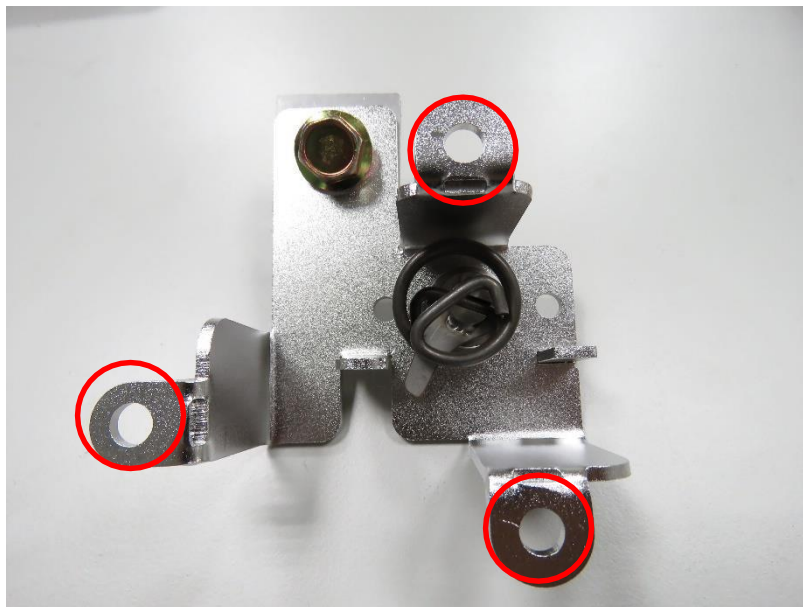

Figure 2-4
5. Install the original motor on the valve support frame, align the motor shaft and spring, and then lock the three-point screws (Figure 2-4).